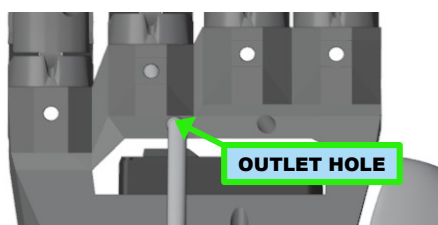

Figure 5.30: Inserting the tube into the tendon outlet hole (rear view)
2. Take the remaining part (on the rear of the skeleton) and thread it first through the pass-through tunnel and then into the final slot (figure 5.30).